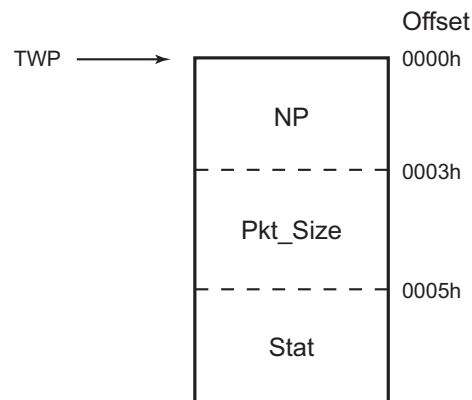

Figure 50. Descriptor Table Entries
the packet from descriptor table bytes 3 and 4. The TxDMA moves the data into the TxFIFO until the packet length counter downcounts to zero. The TxDMA then waits for Transmission Complete signal to be asserted to indicate that the packet is sent and that the Transmit status from the EMAC is valid. The TxDMA updates the descriptor table status and resets the ownership semaphore, bit 15. Finally, the Tx_DONE_STAT bit of the EMAC Interrupt Status Register is set to 1, the address field, DMA_Address, is updated from the descriptor table next pointer, NP (see Figure 50). The High byte of the status is read to determine if the next packet is ready to be transmitted.
The descriptor table contains three entries: the next pointer (NP), the packet size (Pkt_Size) and the packet status (Stat), as illustrated in Figure 50.